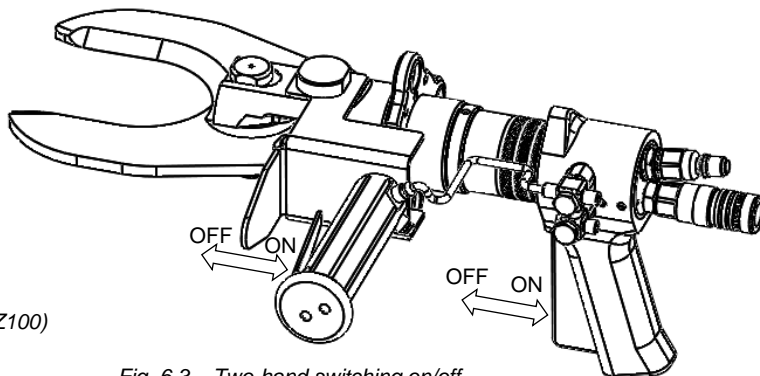

Fig. 6.3 – Two-hand switching on/off (Z090)
- Two-hand operation: Operate both switching handles simultaneously, see *Figs. 6.3, 6.4*, to close the knives (On)!
- Two-hand operation: Release both switching handles simultaneously, see *Figs. 6.3, 6.4*, to open the knives (OFF)!